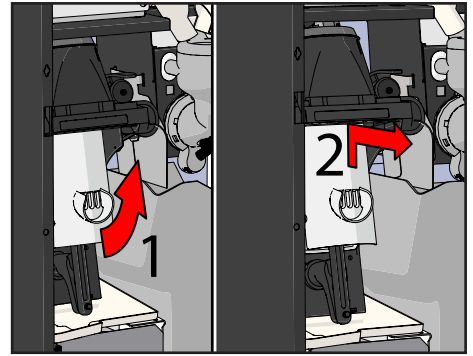

Figure 13.
4. Remove the outlet arm and brewer (see Figure 13).